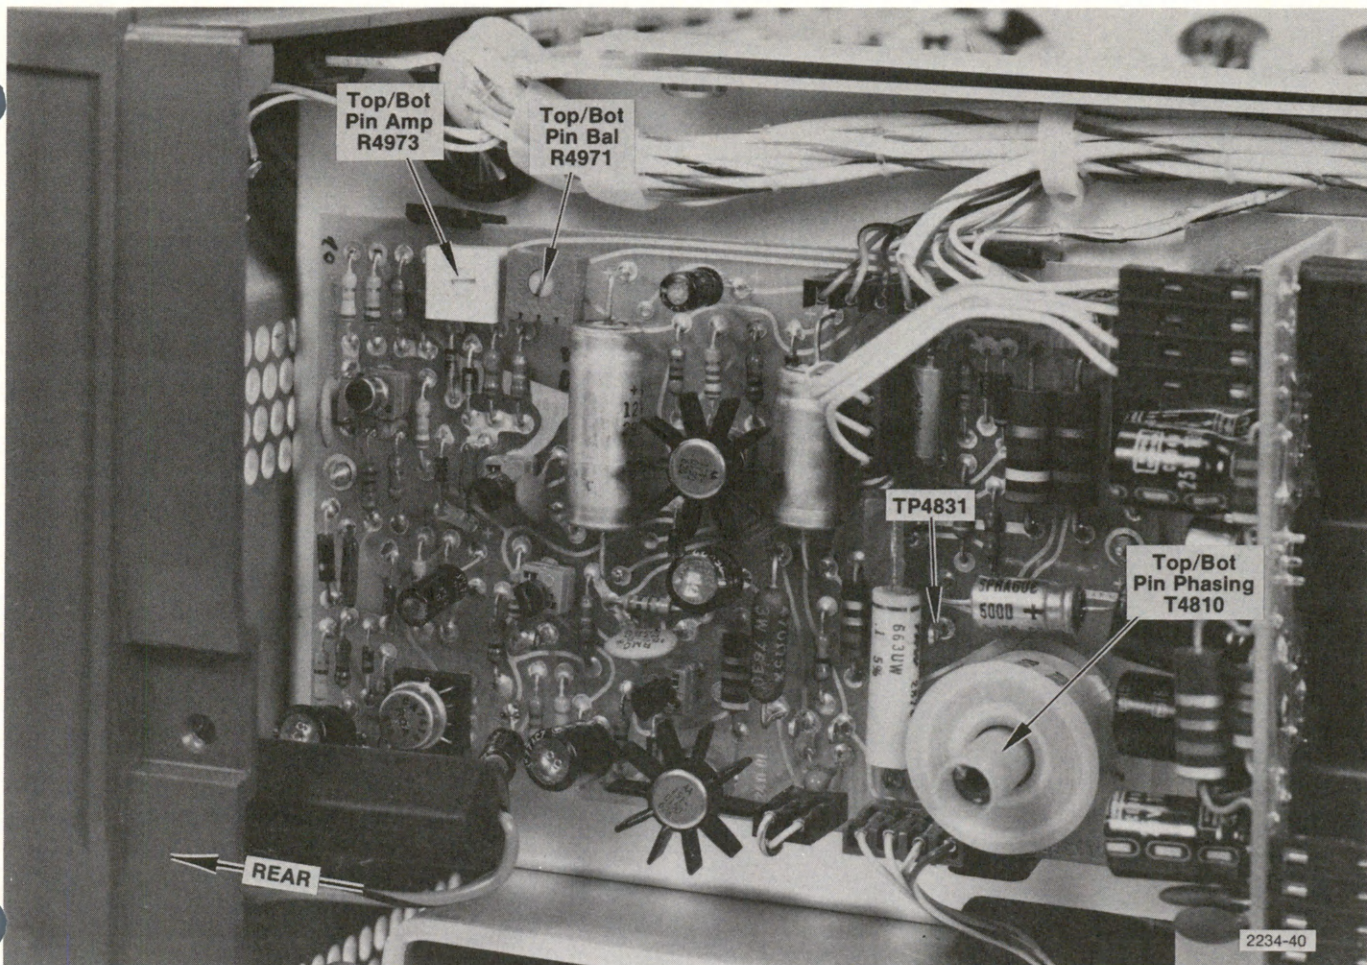

Fig. 6-23. Pin Cushion board test point and adjustment locations.
c. Dc couple the oscilloscope probe to TP4831 (see Fig. 6-23). The dc level at the center of the waveform should be +100 volts within $\pm 5\%$. Set the oscilloscope Input Coupling switch to AC. Fig. 6-24 shows the waveform characteristics. Use this waveform as a guide when performing the adjustments.